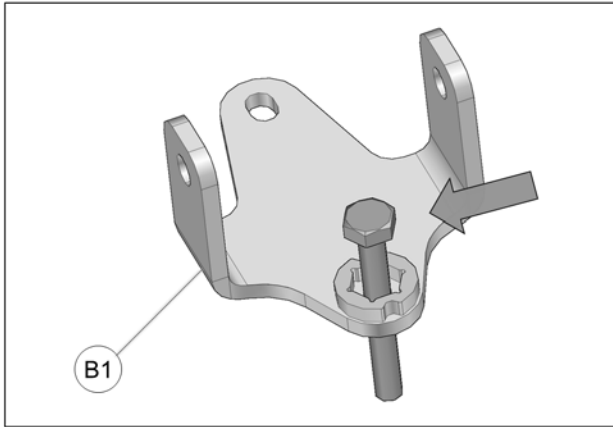

Fig. 4
4. Insert bolt in each rear anchor bracket (**B1**) as shown in Fig. 4